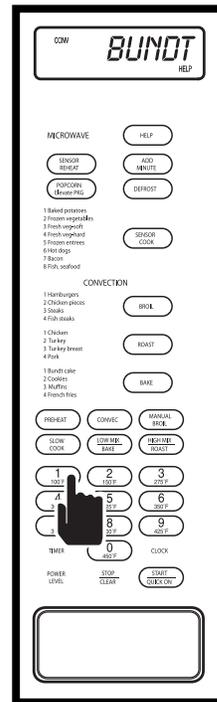

Figure 3-104.
2. Select the food type. The four choices are listed to the left of the BAKE key. Press the number 1 key, “BUNDT - CAKE - USE - BUNDT - PAN - ON - TURN - TABLE” will flash on display (See Figure 3-104).